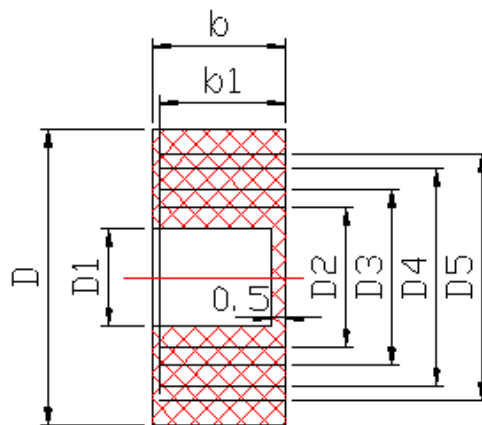

Fig 3
6.2.6 External diameter of the cable should fit bore diameter of the seal ring (Figure 3). Cable's min diameter is D1, max is D5; seal ring is made of rubber XH-21, specification and dimension see table 5 (concentric-ring of seal gasket can be striped off to fit inner diameter of lead-in cable). The diameter gap should not exceed 1mm. Clamp the connection plug and ensure that there is no clearance between seal ring and power cable as well as between seal ring and connection box body, otherwise the motor will lose its flameproof function.